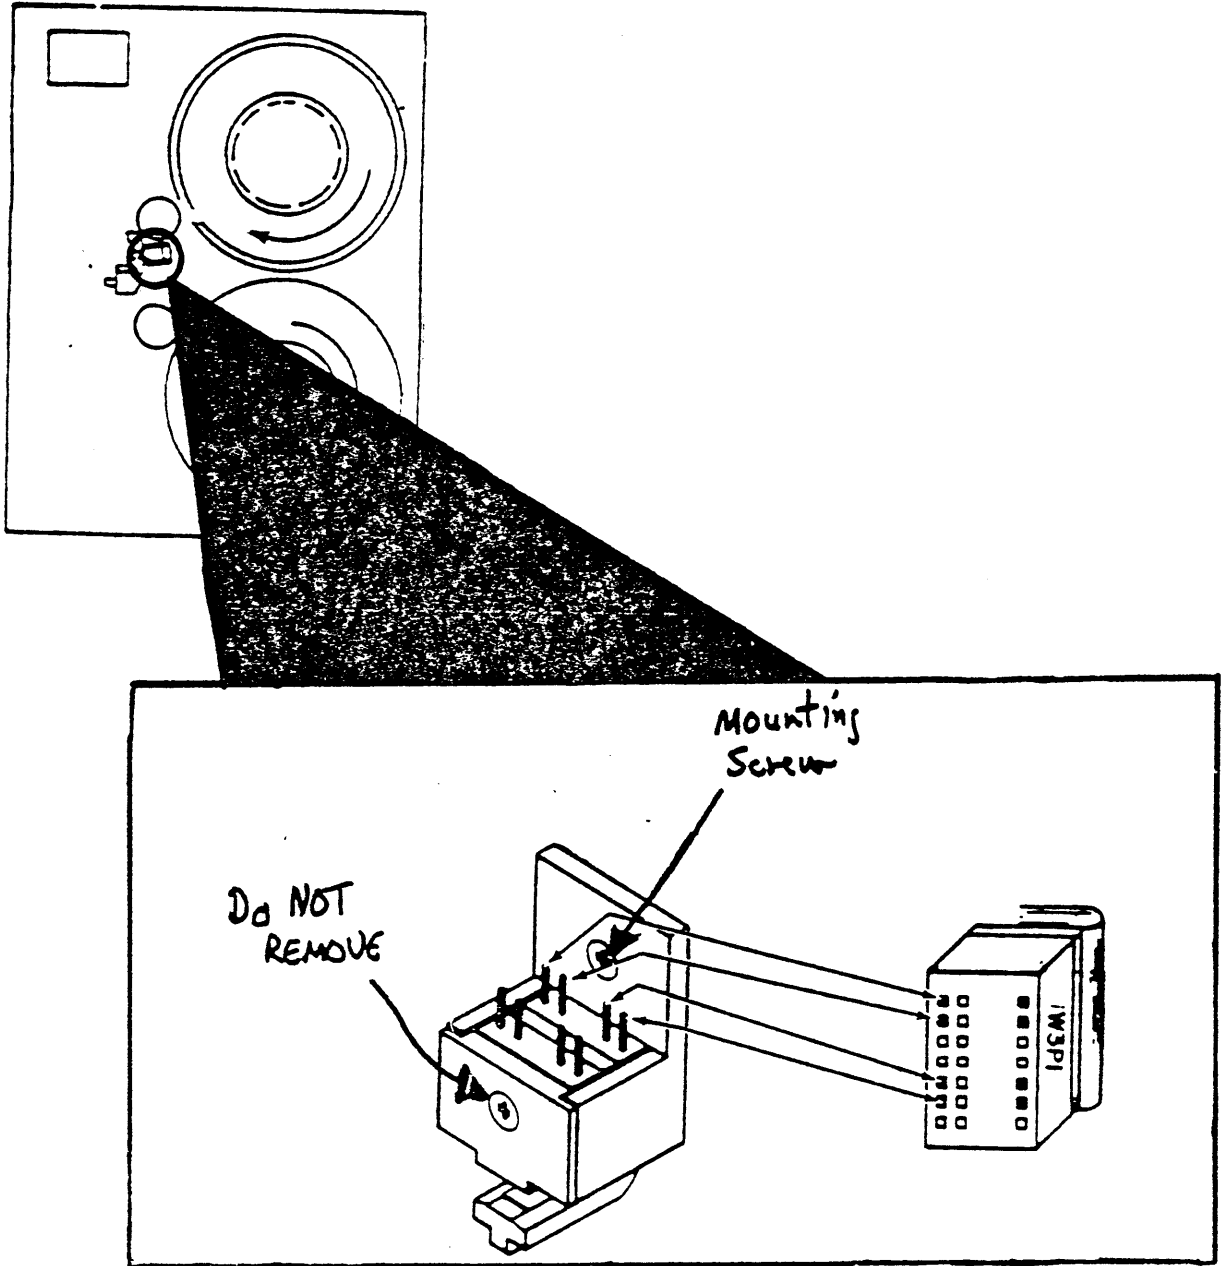

Figure 1 BOT/EOT Sensor
- ___ 2. Disconnect the W3P1 plug from the BOT/EOT sensor (Figure 1). The mounting screw is under the cable.